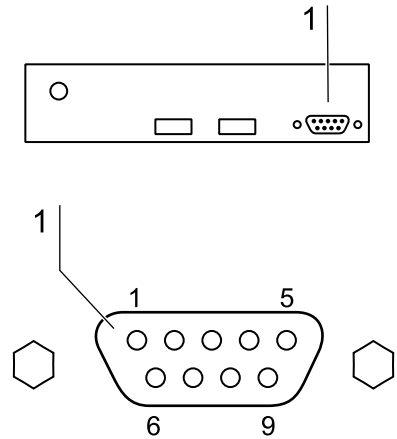

Abb. 13
2. **Fig. 13:** Connect the connector of the serial interface cable (not comprised in the scope of delivery) to the socket [1] at the supply interface at the rear of the device.